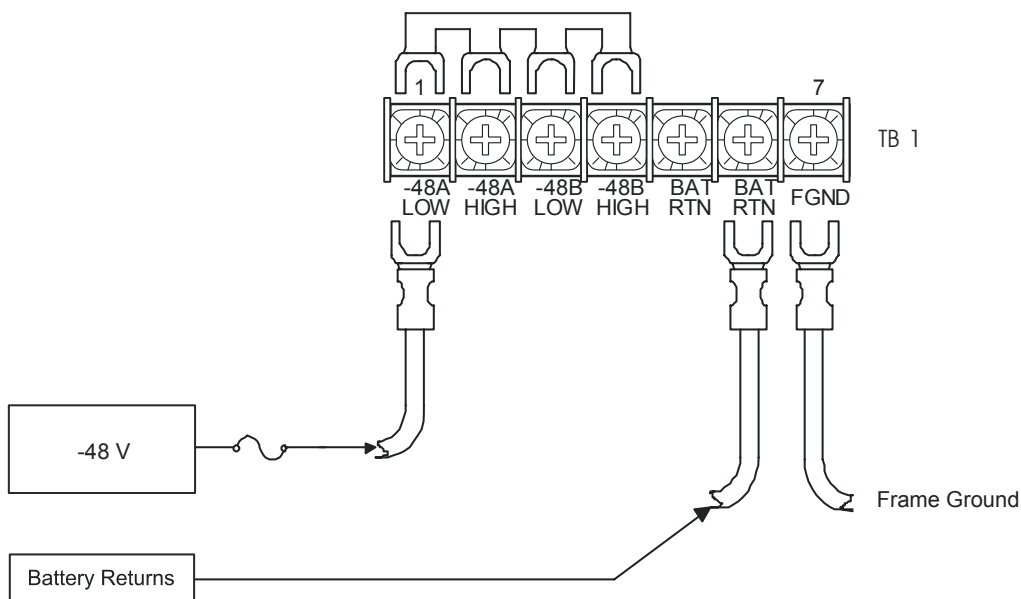

Figure 19. Single Source Power Wiring
2. Connect a wire from the -48A-LOW terminal at TB1 (Figure 19) to the battery supply at the fuse panel.
4. The four-position jumper from the -48A-LOW terminal of TB1 to the -48B-HIGH terminal of TB1 should be installed as shown in Figure 19.